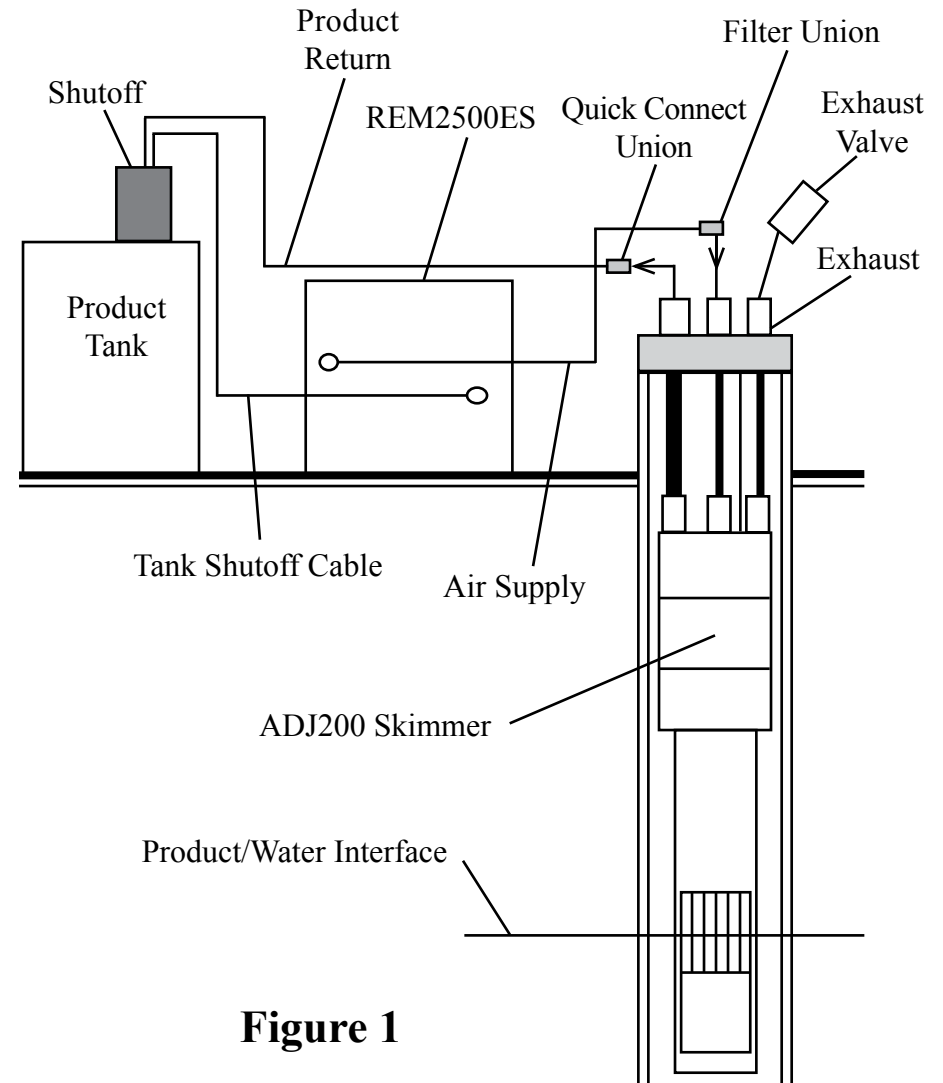
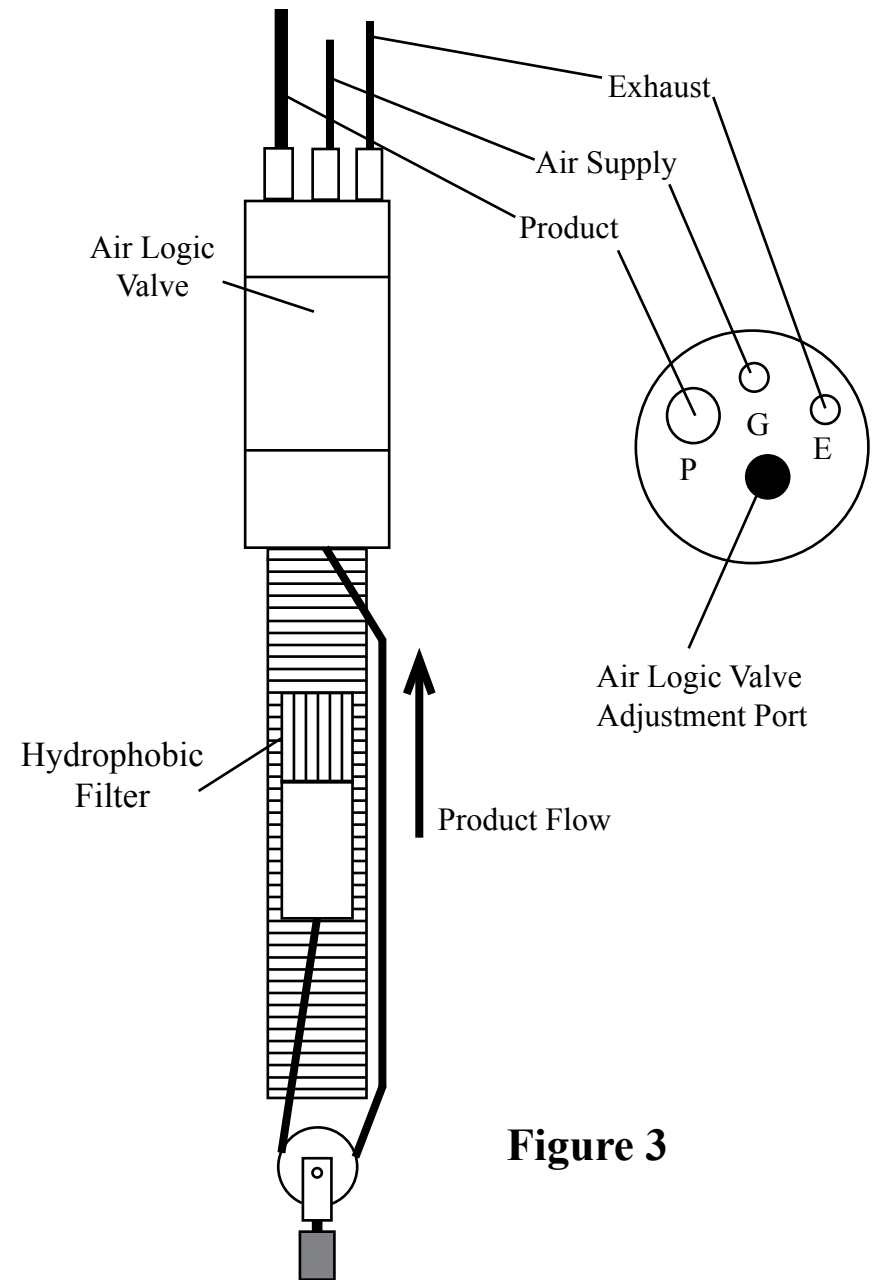

Figure 1
Figure 3
The system (Figure 1) relates to floating hydrocarbon recovery in wells two inches in diameter and larger. This system includes: an intrinsically safe ADJ200 pneumatic Smart Skimmer (Figure 3) which removes only the product to a sheen down to 200 feet deep; and a solar powered Control Station Model REM2500ES which operates the skimmer intermittently, records run time, and has a high level tank shutoff.
STEP 2. Install holding tank shutoff assembly into holding tank (a 2" standard pipe inlet will be required in the holding tank). The level of product in the holding tank can be set by raising or lowering the liquid level float switch rod. Plug the high level shutoff switch cable connector into the left end of the controller (Figure 1).
STEP 6. Position the skimmer and well cap on the ground near the well. Cut a length of 1/4" OD air supply tubing to cover the distance from the top of the well down to water/product interface, plus 5 feet. **NOTE:** If the skimmer is over 70 feet deep, use 3/8" OD air supply tubing in stead of 1/4" OD tubing. Slide enough tubing through the well cap and attach the end of the tubing to the top of the skimmer tube fitting labeled "G" (Figure 3). If the product thickness is greater than 1 foot, position the skimmer's "Black Reference Line" on skimmer well screen 1 foot below top of product. If the product thickness is less than 1 foot, position the skimmer's "Black Reference Line" on skimmer well screen at the water/product interface.
STEP 7. Cut a length of 5/16" OD product tubing same length as the air supply line. Install 5/16" OD product tubing through the well cap tube fitting labeled "P" (Figure 3). Slide enough tubing through the well cap and attach the end of the tubing to the top of the skimmer tube fitting labeled "P". **CAUTION:** Do not kink the tubing.